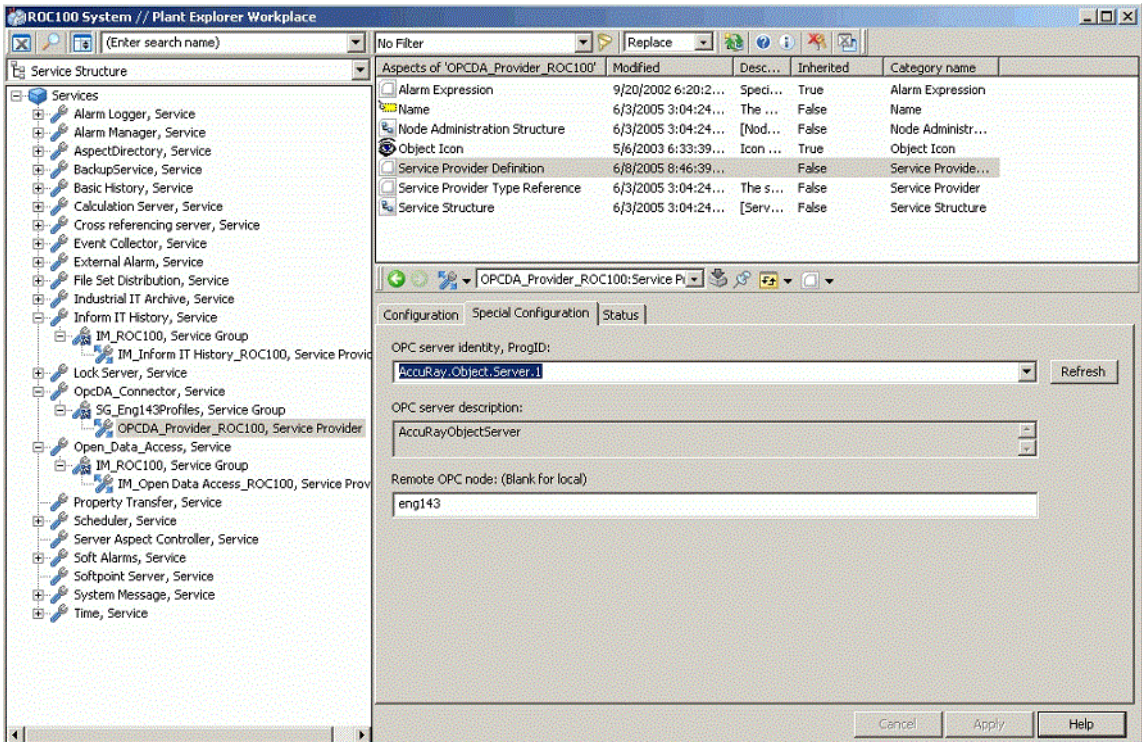

Figure 9. Establishing the OPC DA Connection to the Accuray Object Server
3. Specify the Accuray Object server. To do this (reference Figure 9):